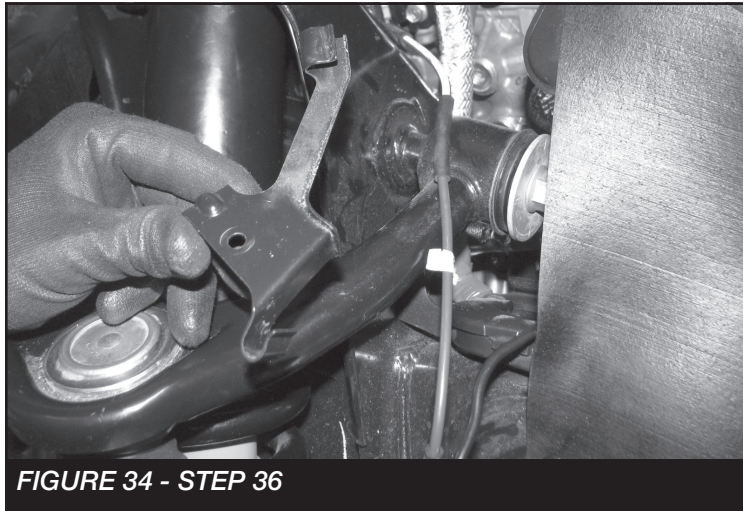

FIGURE 34 - STEP 36
36. Remove the factory ABS line bracket attached to the upper control arm. This will not be reinstated. **SEE FIGURE 34**